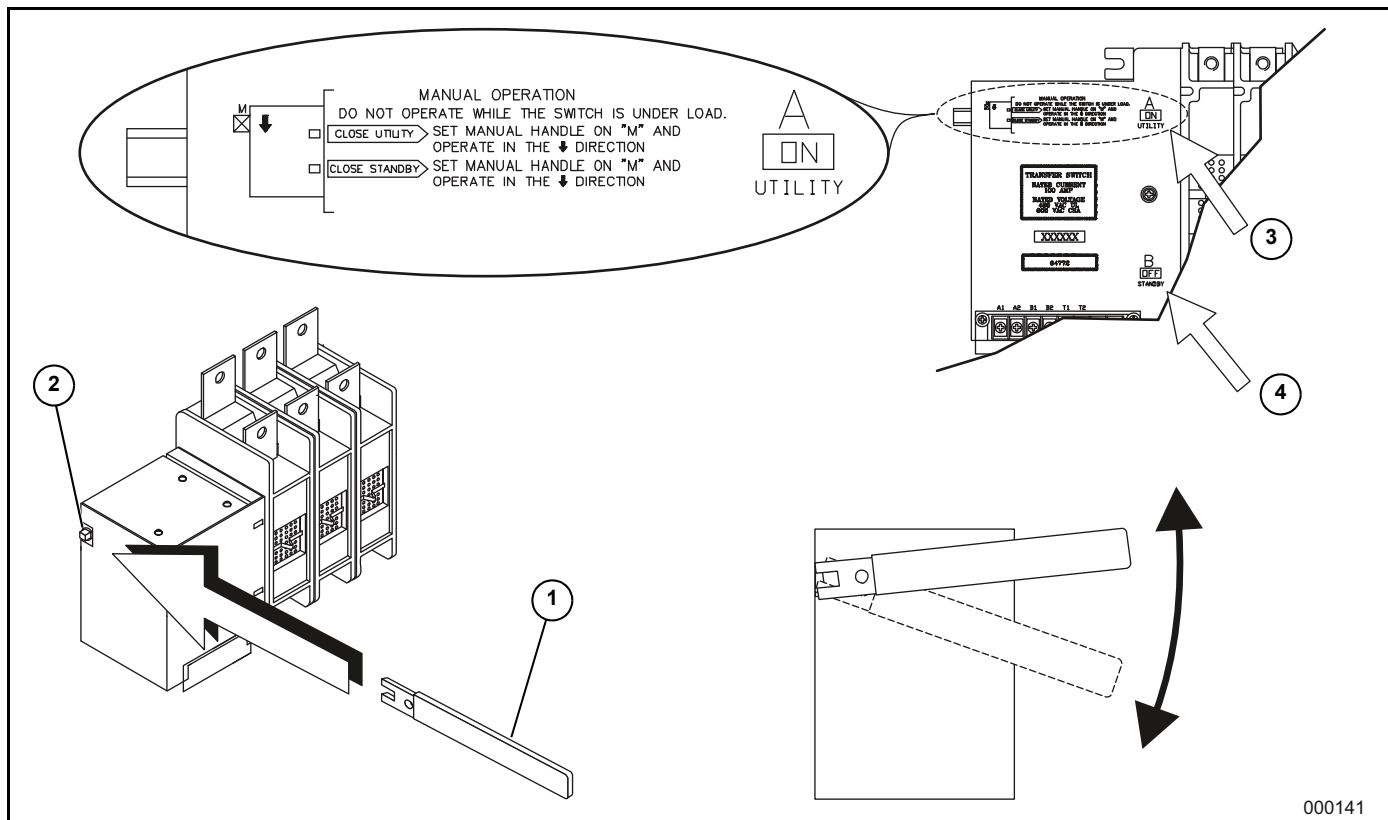

Figure 4-2. Actuating Transfer Switch
5. Note position of transfer mechanism main contacts by observing display windows in “A” and “B” (3 and 4 in Figure 4-2) as follows: